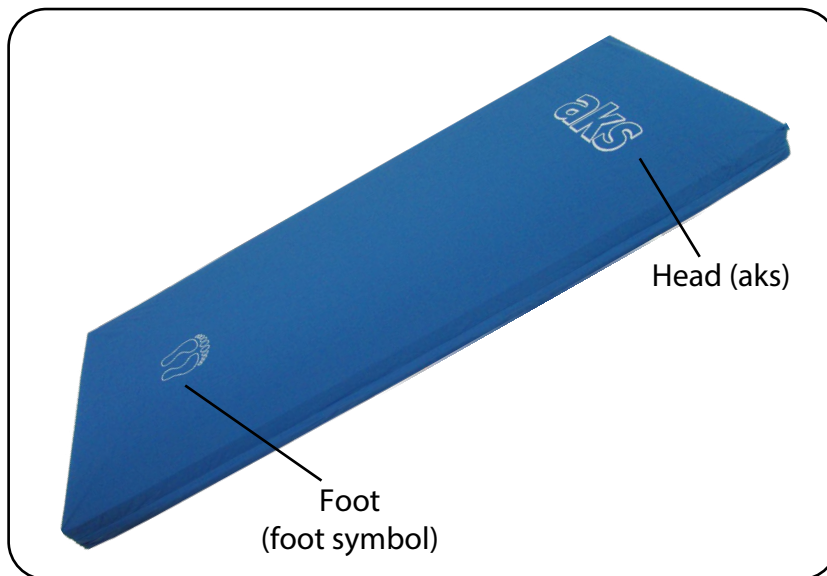

Fig. 6.1.04 – Mattress with inkoair® mattress cover
- Make sure that the “aks” imprint and the foot symbol are upright. The “aks” imprint should be positioned at the head of the bed and the foot symbol should be positioned at the foot (Fig. 6.1.04).